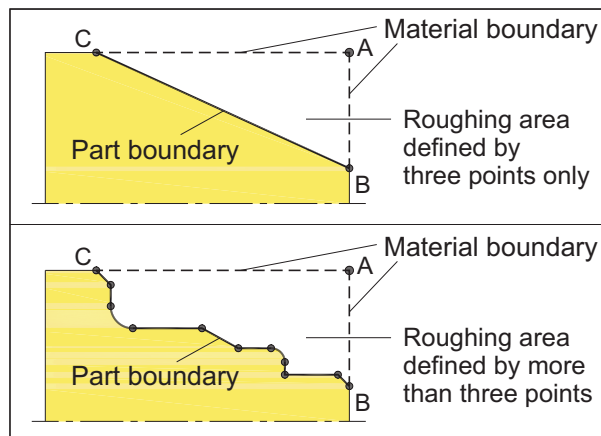

Figure 35-11
The two defined boundaries create a fully enclosed area that defines the excessive material. From this isolated area, the material is removed in an orderly way, following specified machining parameters in the cycle call block or blocks. Mathematically, the minimum number of points that can define an area is *three*. These three points must be nonlinear (meaning not on the same line). *Figure 35-11* shows a simple boundary with only three points and a boundary consisting of many points.
*Part boundary* is defined between points B and C, and *may have* any number of points between. For CNC programming, different descriptions will be used rather than the generic ABC points in *Figure 35-11*.